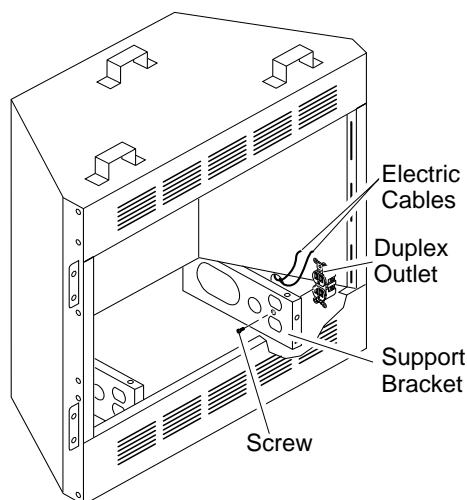

Figure 22 - Removing Duplex Outlet
6. Locate duplex outlet mounted to support bracket in lower right hand side of firebox. Remove screw holding duplex outlet to support bracket in bottom of firebox. Remove duplex outlet (see Figure 22).